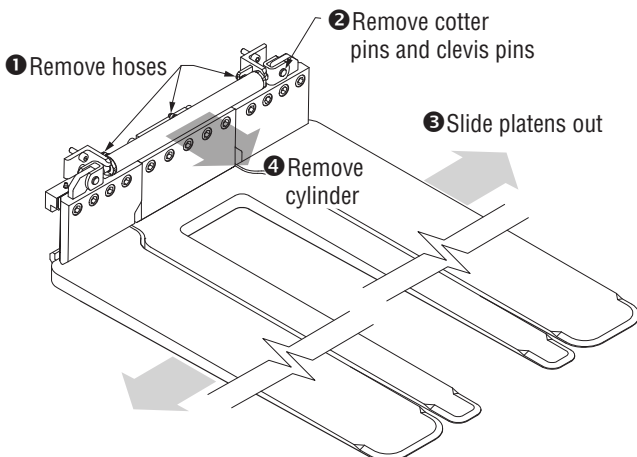

Figure 6-14, Remove Cylinder
4. Remove the cotter pin and clevis pin holding each end of the cylinder to the platens. (Figure 6-14)